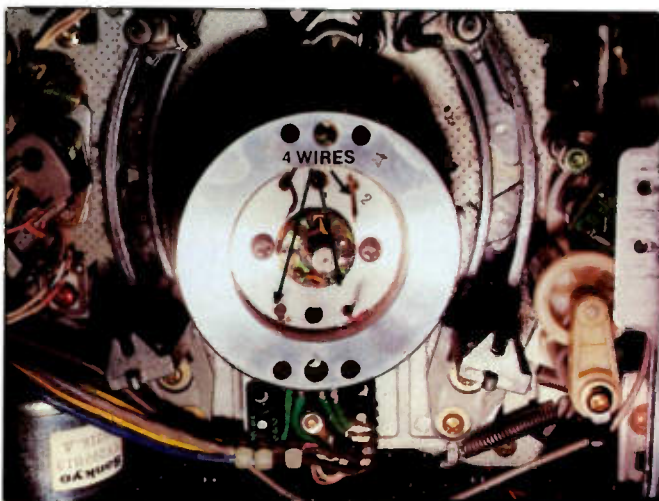

Figure 5. Unsolder the four wires at the top of the upper cylinder.
1. With the top cover of the VCR already removed, remove the shield plate and chassis beam which are held in place by two screws (items 13 and 14 shown on page 7 of the service manual).
3. Unsolder the 4 wires located on top of the cylinder (reference Figure 5), make a note of where each wire goes to avoid problems during reassembly.